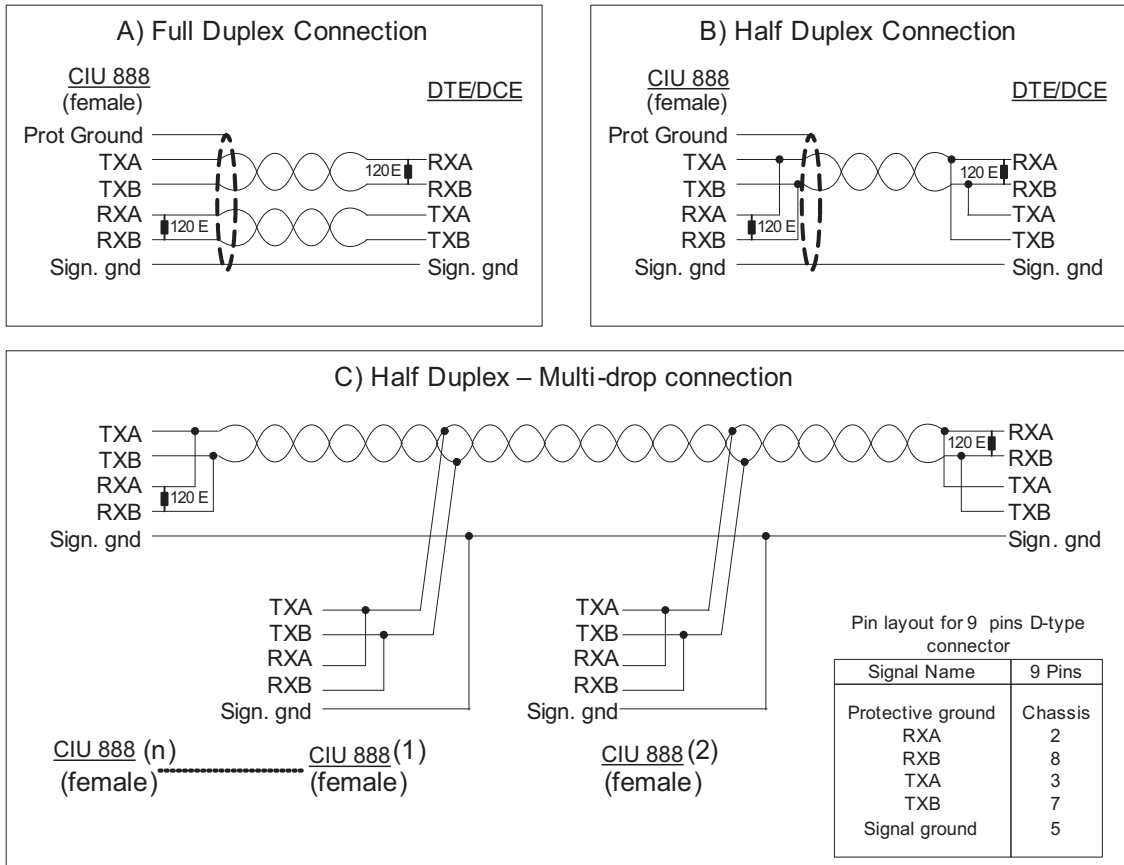

FIGURE 3-7
Refer to FIGURE 3-7 for RS-485 pin configurations and connections.
Refer FIGURE 3-7 (A) for full duplex RS-485 connection or FIGURE 3-7 (B) when a half duplex RS-485 connection is required. For half-duplex connect signals RXA with TXA and RXB with TXB inside the cable connectors. Place 120 Ω resistors at the receive terminals in the cable connectors.